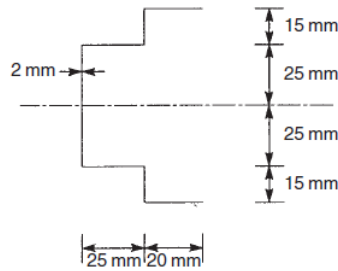

Figure 4
- (b) The cold-formed section shown in Figure 4 is subjected to a torque of 50Nm. Calculate the maximum shear stress in the section and its rate of twist. $G = 25000N/mm^2$. [BL: Apply| CO: 6|Marks: 7]